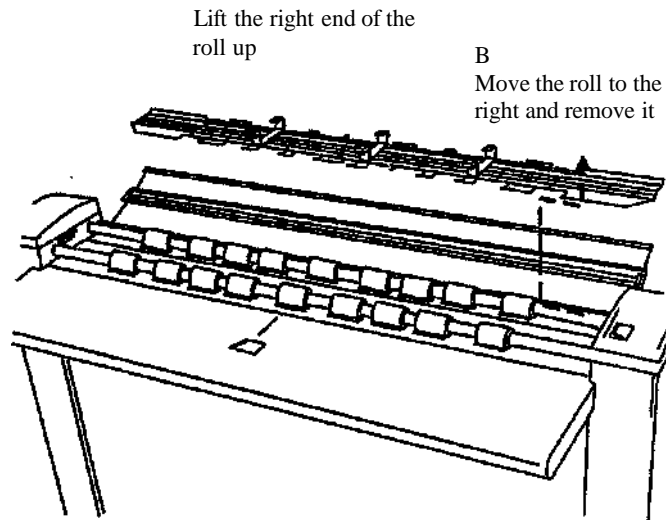

Figure 5. Removing the Document Drive Rolls
9. (Figure 5): Remove each Document Drive Roll. For each roll:
5. (Figure 5): Seat the Right Bearing: